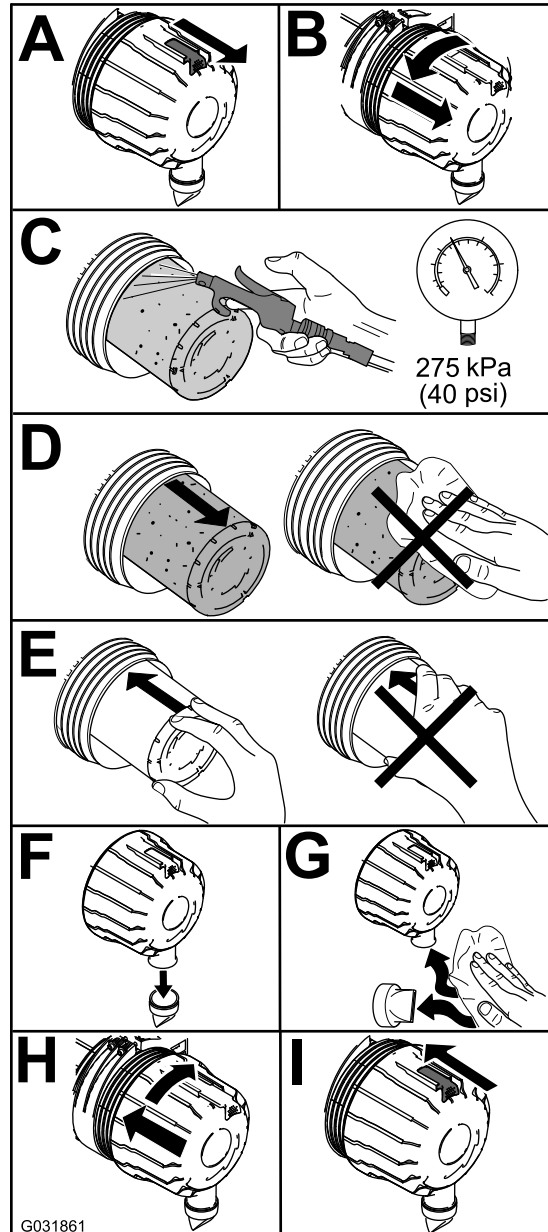

Figure 48
1. Replace the primary air-cleaner element (Figure 48).